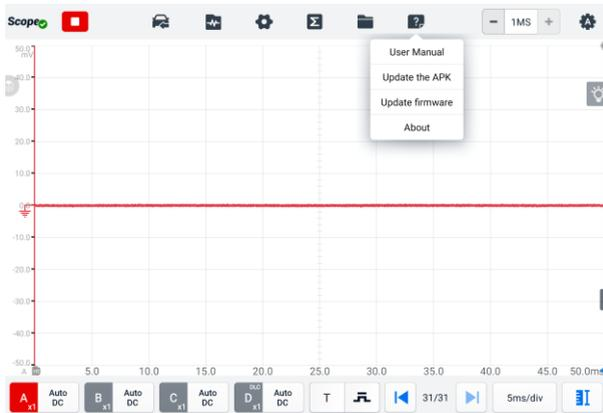

Figure 9-2 Help Screen
1. Tap the **Help** button on the upper toolbar of the screen. A dropdown menu displays. (See Figure 9-2 Help Screen.)